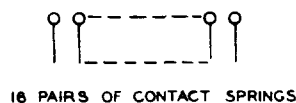

Fig. 9—333A Plug
2.08 333A: The 333A plug (Fig. 9) consists of a wooden strip on which are mounted sixteen pairs of insulated contact springs. The 333A plug is used with the 461A jack in the J32311 connectors and on the connector shelves in the 355A dial office.